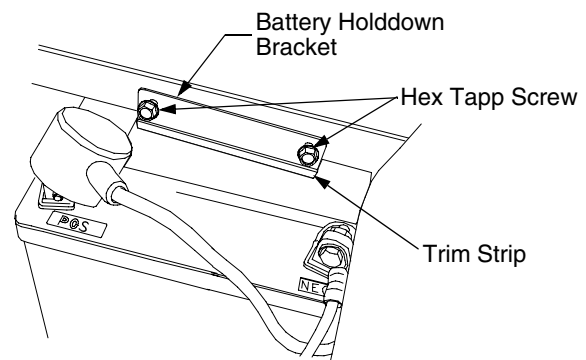

Figure 23
- Remove the two hex tapping screws from the battery holddown bracket and remove the bracket. Use care to avoid losing the trim strip from the bottom of the bracket. See Figure 23.